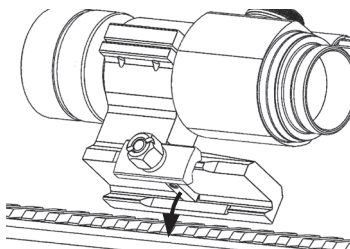

Fig. 3
- c. Install the mount and sight on the rail (Fig. 3). Make sure that the mount is correctly positioned and that the recoil stop is in the selected groove.